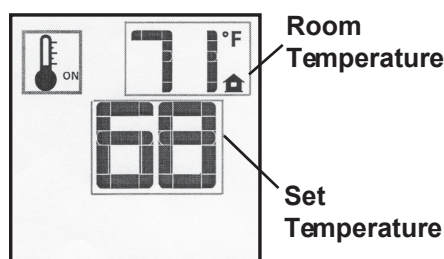

Figure 36 - Remote Control Displaying Room Temperature and Set Temperature
1. To activate this function, press the **THERMOSTAT** key (see Figure 33, page 22). The display on the handset will change to show that the room thermostat is ON and the set temperature is now displayed (see Figure 36).
2. Adjust the set temperature (shown on display) by pressing the up or down arrow keys until the desired set temperature is displayed (see Figure 36).